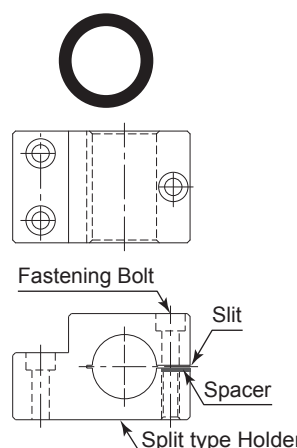
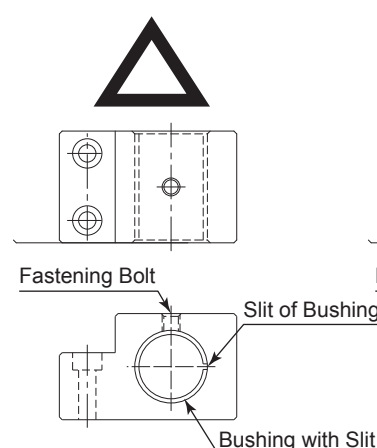

Fig. 16
Fig. 17
- When installing a Motor Spindle to the holder, recommended installation method is shown Fig. 16. Refer to " ③ How to fabricate the Split Type Holder ". If this is not possible, install as shown in Fig. 17.